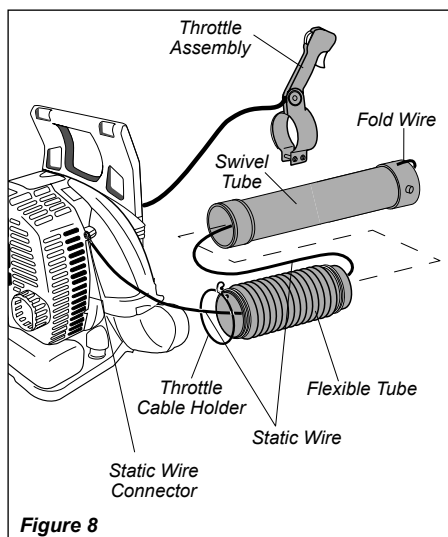

Figure 8
2. Remove static wire from package and fix eyelet to right hand engine cover screw. See Figure 8.
8. Fold the end of the static wire back over the connection of the swivel tube. See Figure 8.